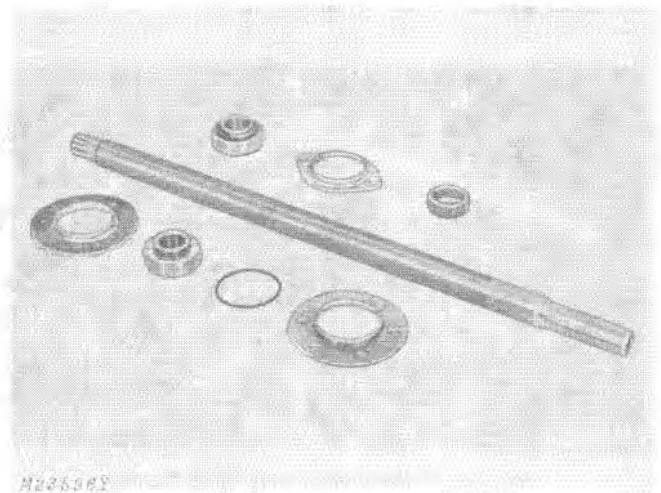

Fig. 9-Secondary Shaft
1. Check shaft bearing surfaces, Fig. 9, for evidence of bearings turning on shaft.